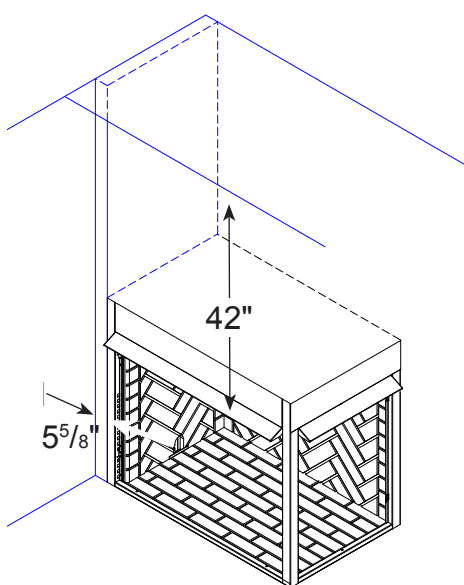

Figure 3 - Sidewall and Ceiling Clearances
Ensure that minimum clearances shown in **Figures 3 through 7** are maintained. Left and right clearances are determined when facing the front of the firebox.
1. **Sidewall Clearances** — The clearance from the inside of the appliance to any combustible adjacent wall should not be less than $5\frac{5}{8}$ ". *Figure 3*
2. **Ceiling Clearance** — The ceiling must be at least 42" from the top of the firebox opening (bottom of hood). *See Figure 3.*